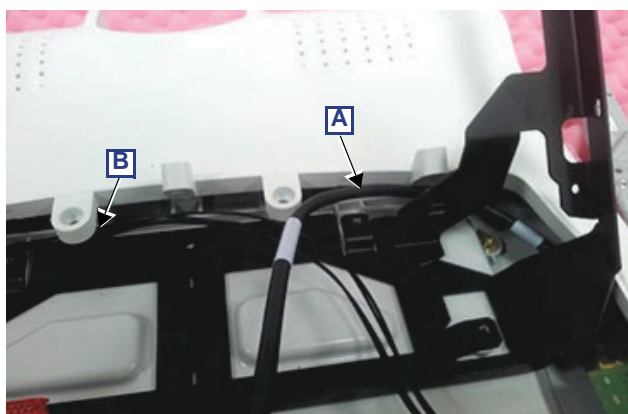

Figure 8-46 Routing and Connecting the Touch Screen Cables
- 5.) Reconnect the two Touch Screen cables and make sure to route them as shown in Figure 8-46: